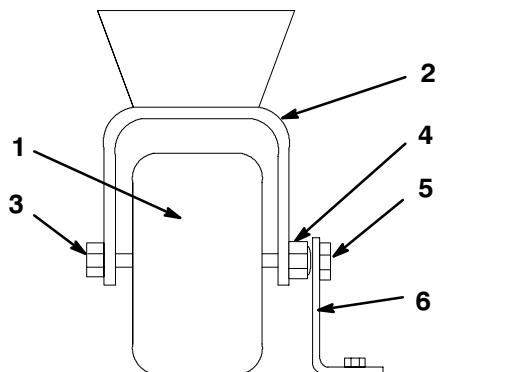

Figure 1
1. Remove jam nut from bolt that fastens crate bracket to tail wheel. Discard jam nut and only if wheel is fastened with a bolt (Fig. 1).
2. Remove crate bracket from wheel bolt. (Fig. 1).